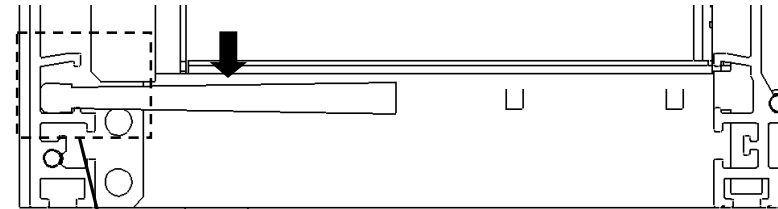
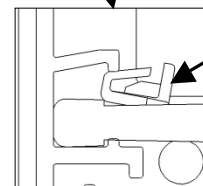
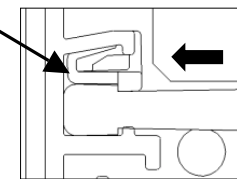

Fig. 7
Fig. 8
Fig. 9
6. For installing bottom brush, place the brush as shown in fig.7 and place a clip at an incline to the opening of the extrusion as shown in fig.8. Push the clip inside the extrusion to lock as shown in fig.9.